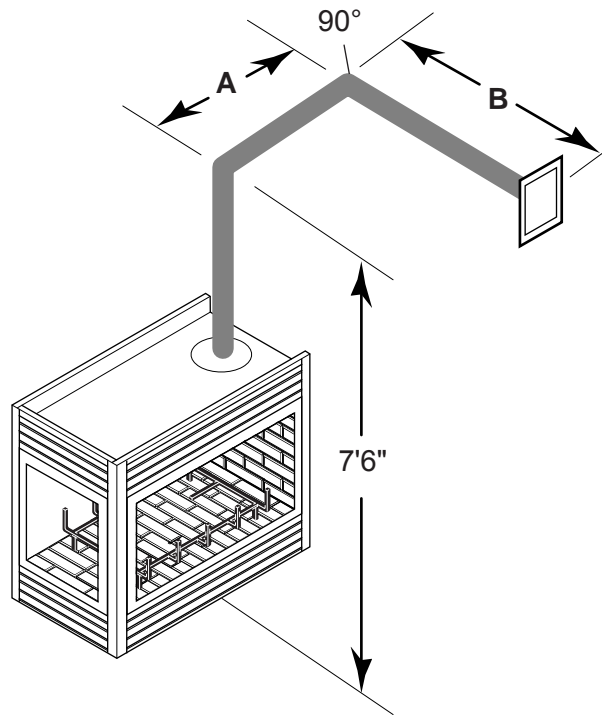
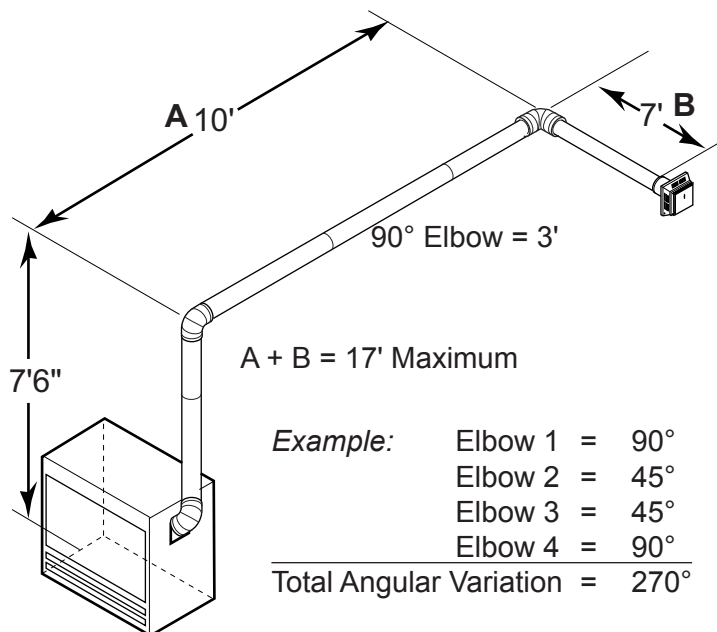

Figure 28 - Horizontal Run Reduction
Figure 29 - Maximum Vent Run with Elbows
- If a 90° elbow is used in the horizontal vent run, the horizontal vent length is reduced by 36" (914 mm). See Figure 28. This does not apply if the 90° elbows are used to increase or redirect a vertical rise. See Figure 29.
In Figures 28 and 29, Dimension A plus B must not be greater than 17' (5.2m).